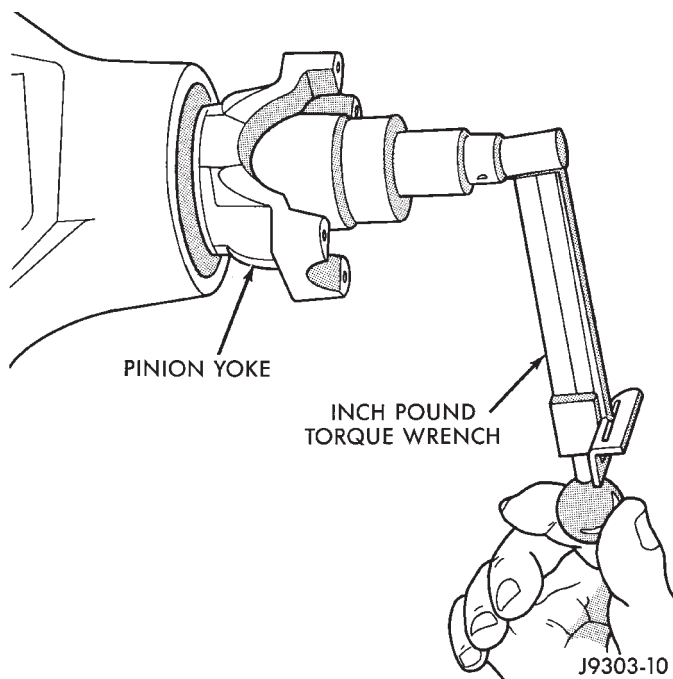

Fig. 35 Check Pinion Gear Rotating Torque
(15) Using Yoke Holder 6719, crush collapsible spacer until bearing end play is taken up.
(16) Slowly tighten the nut in 6.8 N·m (5 ft. lbs.) increments until the desired rotating torque is achieved. Measure the rotating torque frequently to avoid over crushing the collapsible spacer (Fig. 35).
(17) Check bearing rotating torque with an inch pound torque wrench (Fig. 35). The torque necessary to rotate the pinion gear should be: